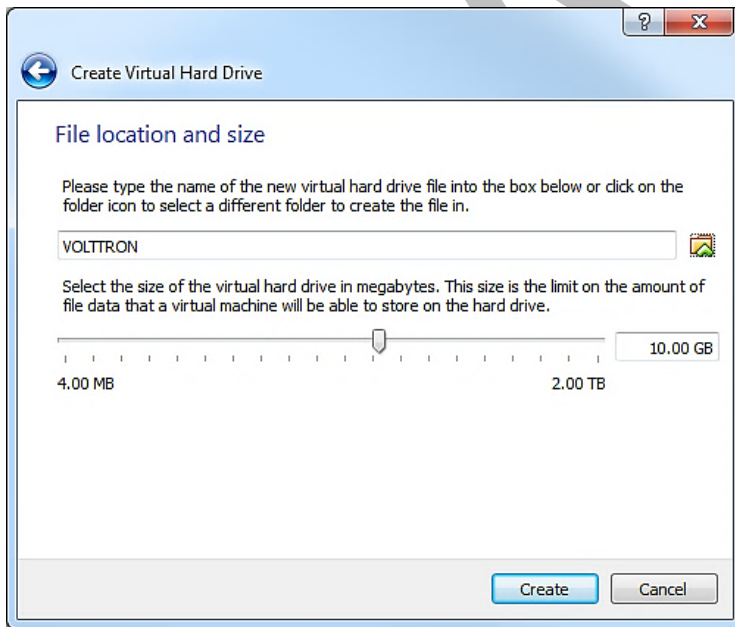

Figure 9: Creating Virtual Hard Drive (continued)
7. Choose the file size for the VM virtual hard drive. Keep in mind that Linux is over 1 GB just for the operating system (Figure 9). Choose Create.